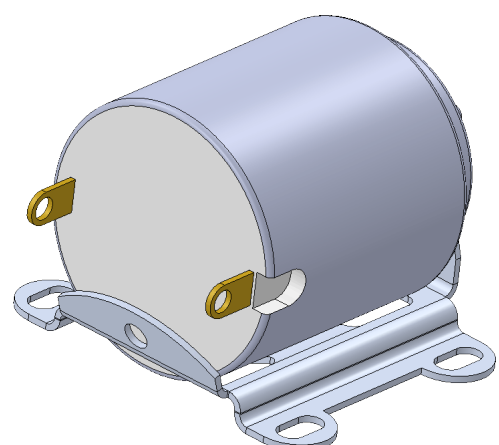

Fig. 6
Step 7. Click Add/Finish Mate  to add **Concentric** mate, Fig. 6.